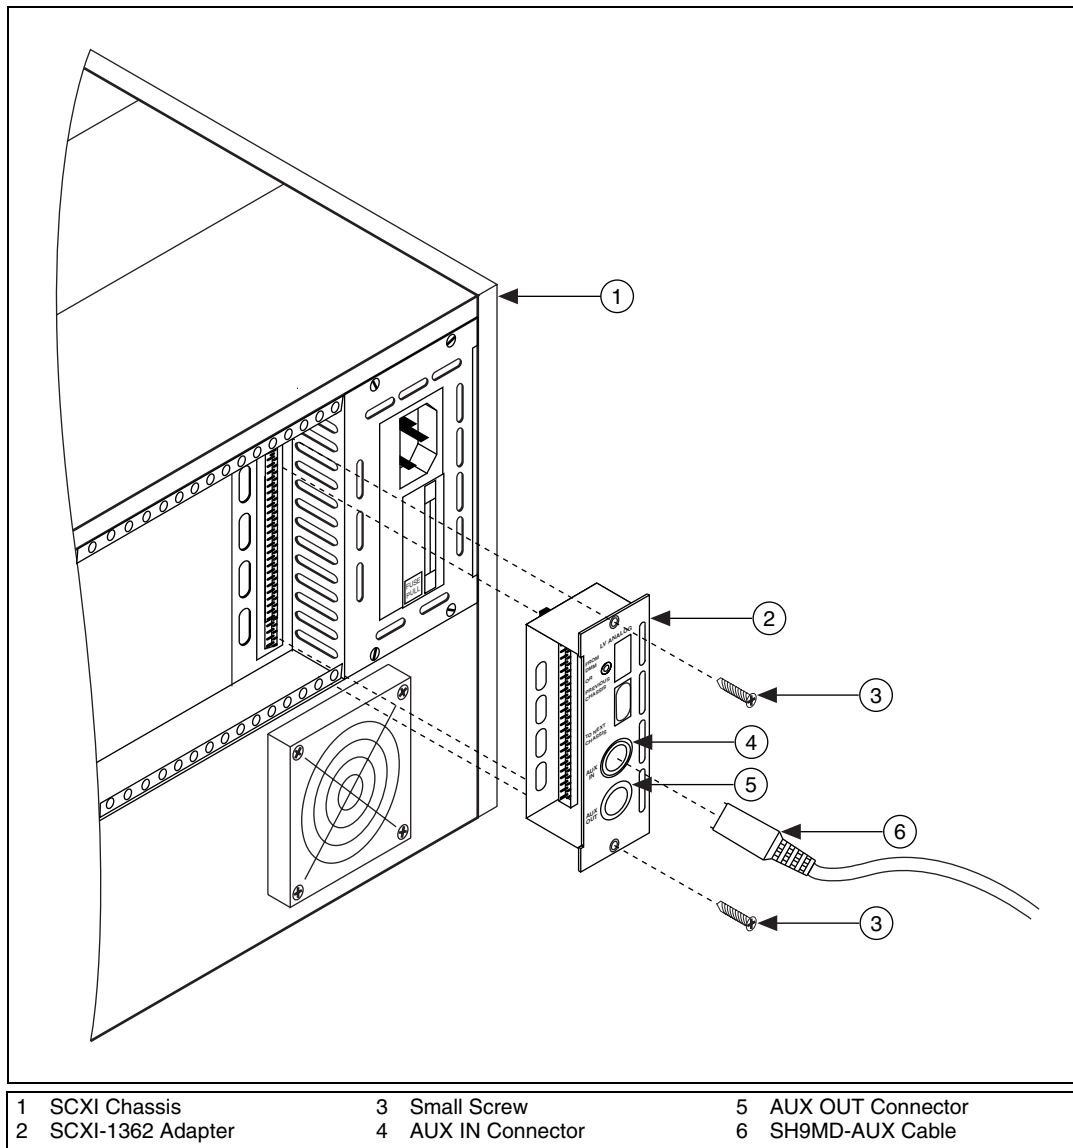

Figure 1. Installing the SCXI-1362 Kit
Refer to Figure 1 when installing the SCXI-1362 adapter kit. To install the SCXI-1362 kit, complete the following:
3. Install the SCXI-1362 adapter through the chassis into the rear of the SCXI module. When installed, the SCXI-1362 adapter is flush with the back of the SCXI chassis. Refer to Figure 1.